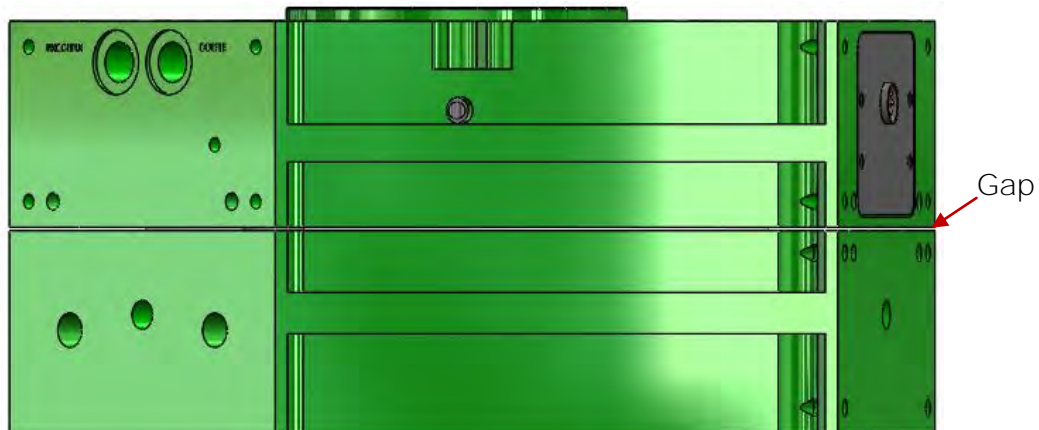

Figure 6.2-2. E160 Tool Changer – Docked Position
5. Stop the motion when the distance between the Robot Adaptor interface surface and Tool Adaptor interface surface are touching or as close as can reasonably be achieved. At this time, any electrical or fluid connections will be made through the use of available side modules. Note that when the interface surfaces of the Robot Adaptor and Tool Adaptor are in contact, there is a small gap along the outer edge of the Adaptors (Figure 6.2-2).